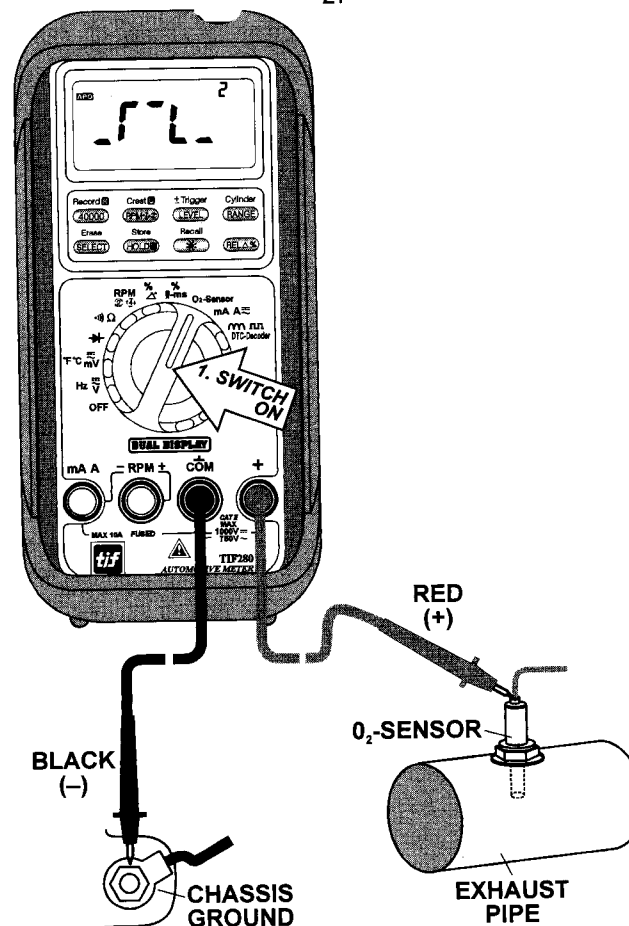

FIG 11. O₂-SENSOR TESTER
- 3) Connect test leads to the O₂ sensor dynamic output and observe the digital display. See **FIG 11**